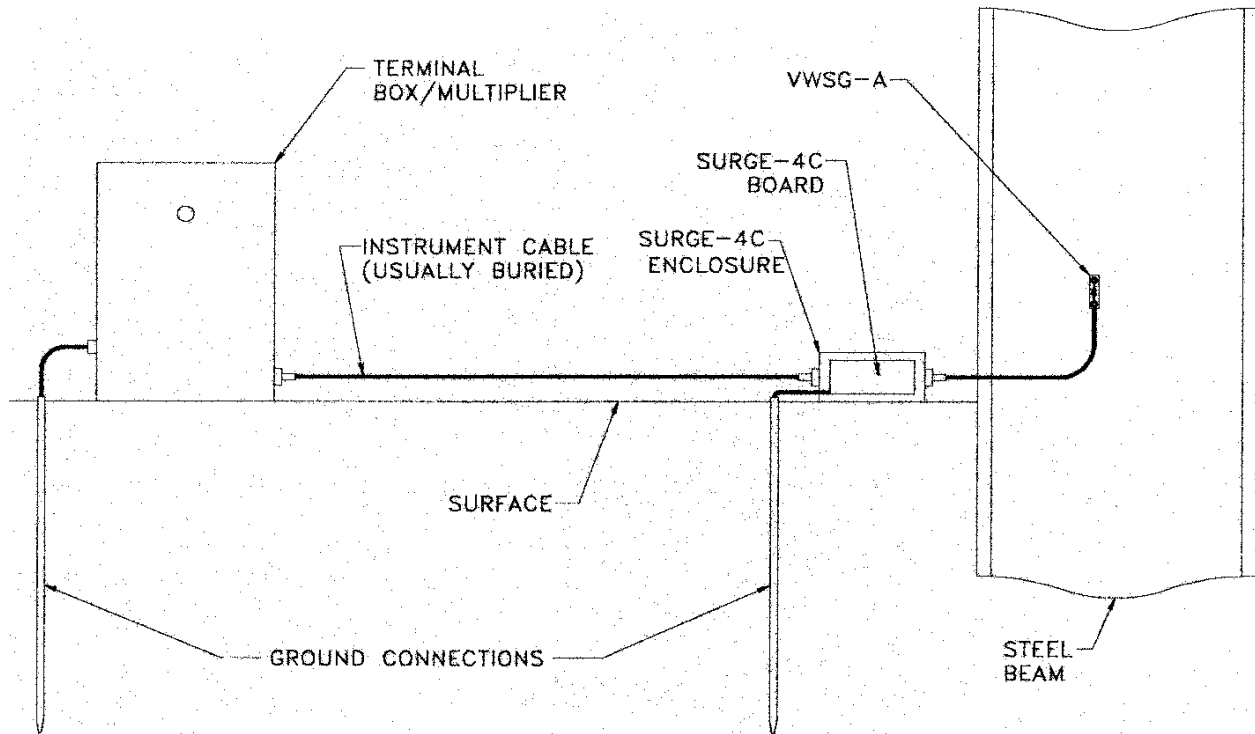

FIGURE 4-1 LIGHTNING PROTECTION SCHEME
- Lightning arrestor boards and enclosures are available from RST. They are installed at the exit point of the instrument cable from the structure being monitored. The enclosure has a removable top, so in the event the protection board (Surge 4C) is damaged, the user may easily service the components or replace the board. A connection is made between this enclosure and earth ground to facilitate the passing of transients away from the Strain Gauges. See Figure 4-1.